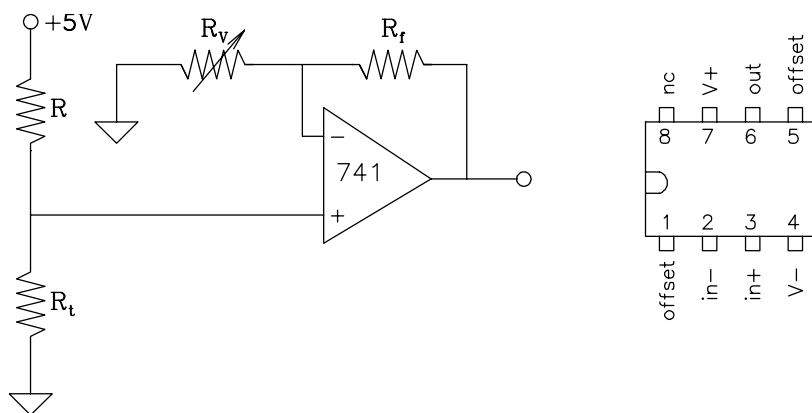

Figure 6.1: **Thermistor circuit.**
- ❗ Assemble the thermistor circuit as shown in Fig.6.1.